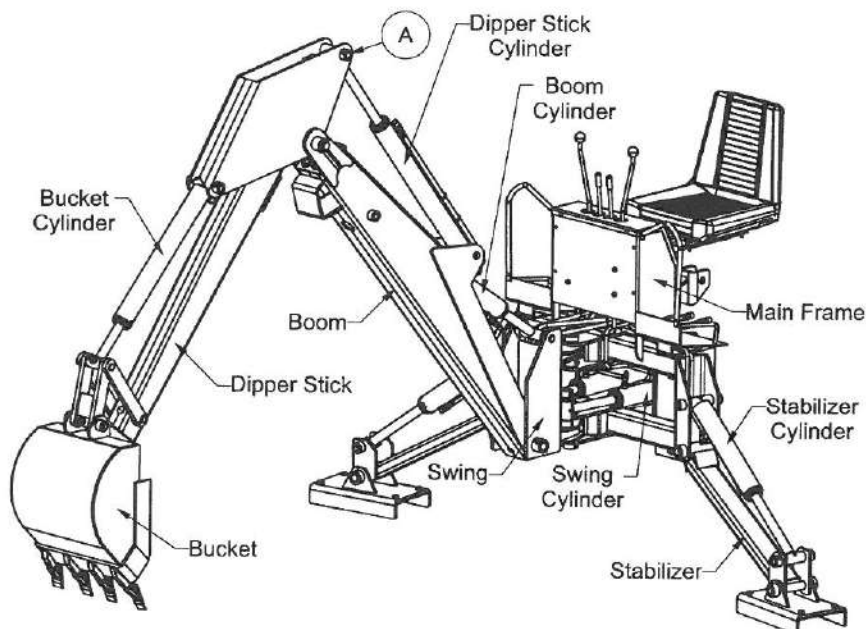

Figure 4 – Description of Major Backhoe Parts
1. Familiarize yourself with all of the terms that will be employed in the following instructions by studying Figure 4—Description of Major Backhoe Parts.
7. Remove the pin from Point A (Figure 4) and connect dipper stick cylinder.